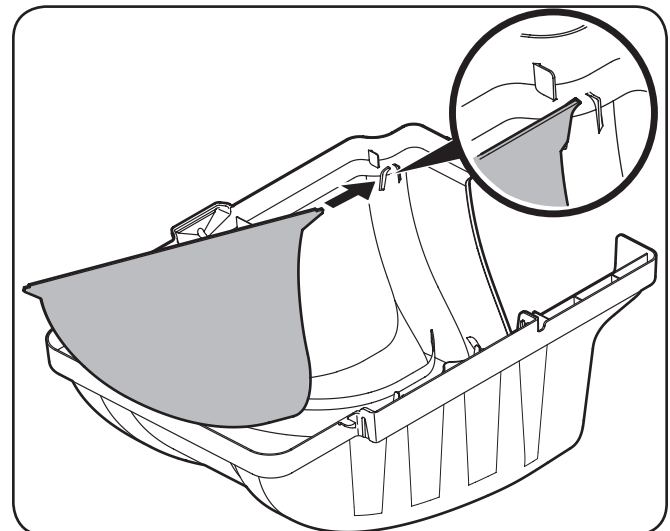
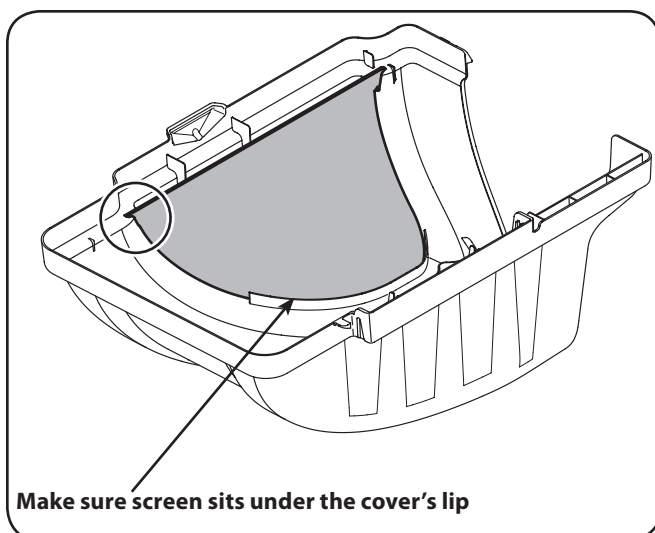

Figure 4-10
Figure 4-11
3. Install the bagger screen into the bagger cover by first inserting one end into the corresponding cutout mounting hole, as in Fig. 4-10. Make sure to feed the screen under the lip, as in Fig. 4-11.
4. Clip in the other side of the screen by flexing the screen and pushing it down into the other corresponding cutout hole. See Fig. 4-11.